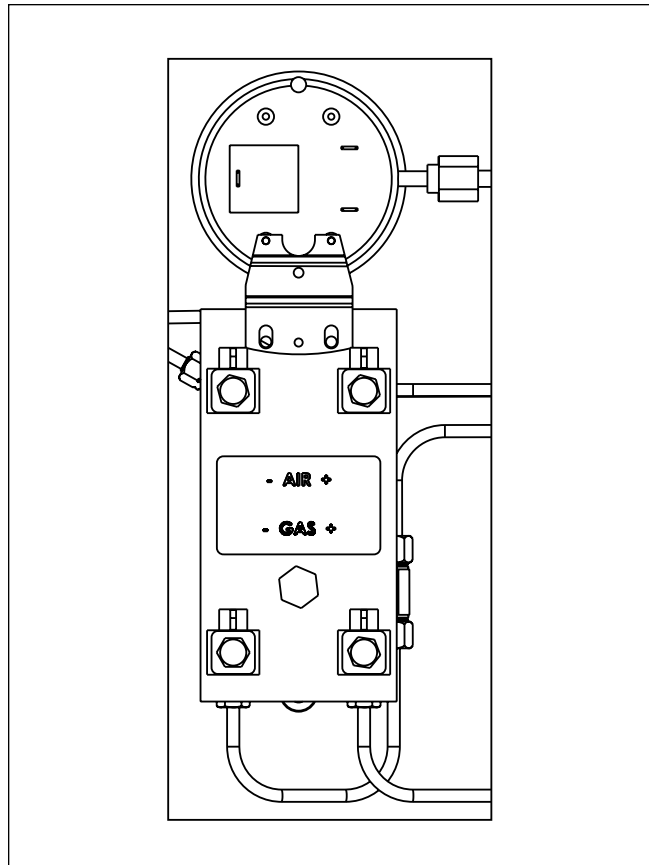
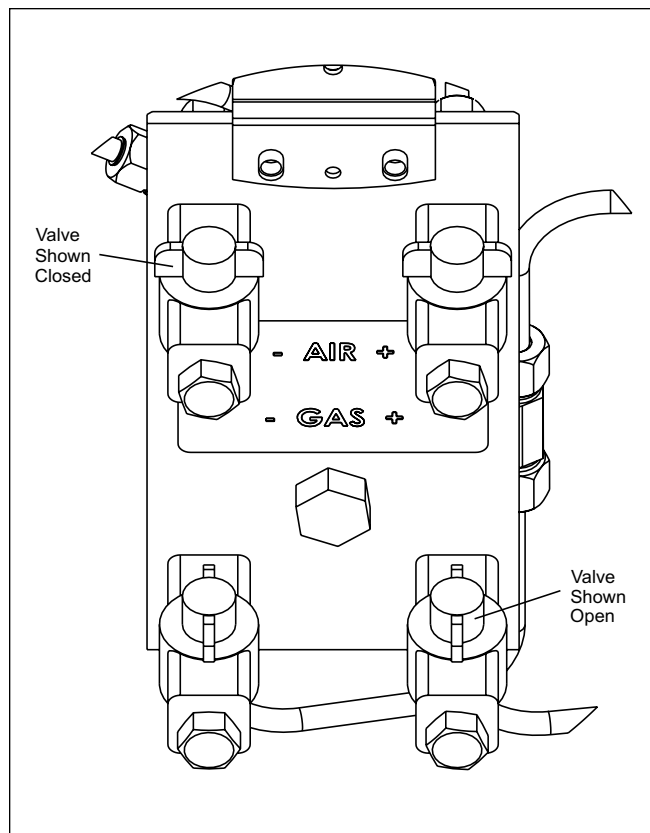

Figure 34. Gas/Air Test Panel.
Figure 35. Test Panel Valves.
4. There is a gas/air test panel to the left of the control panel, at the front of the unit (see Figure 34). Ensure that all four valves on the test panel are closed (see Figure 35).